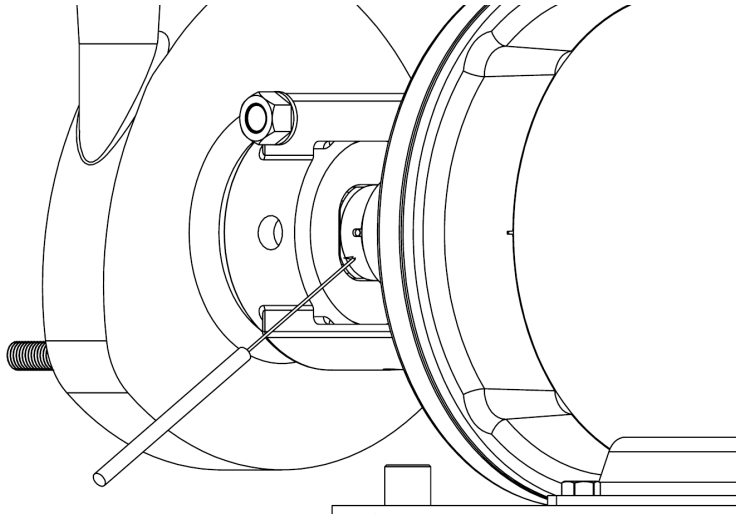

Figure 6
8. Push the stationary seal out from the back of the pump using an o-ring pick or your fingers or both. Pushing on opposite sides of the shaft with constant light pressure the best. Make sure to push outside of the rear seal face. See figure 6.